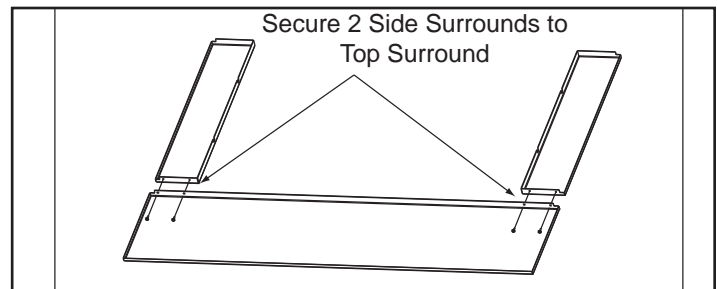

Figure 21.2
2. Using a Phillips head screw driver attach the side surrounds to the top surround using 2 #8 sheet metal screws provided with the kit. **Figure 21.2.**